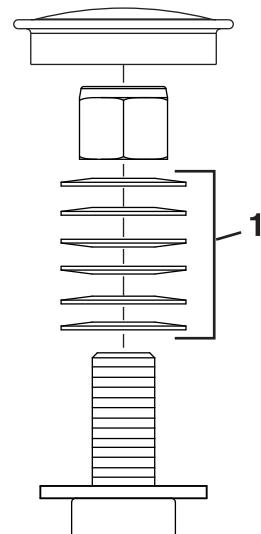

Figure 55
3. Remove the dust cap from the caster and tighten the locknut (Figure 55).
4. Tighten the locknut until the spring washers are flat, and then back off a 1/4 turn to properly set the preload on the bearings (Figure 55).
**Important:** Make sure that the spring washers are installed correctly as shown in Figure 55.
5. Install the dust cap (Figure 55).